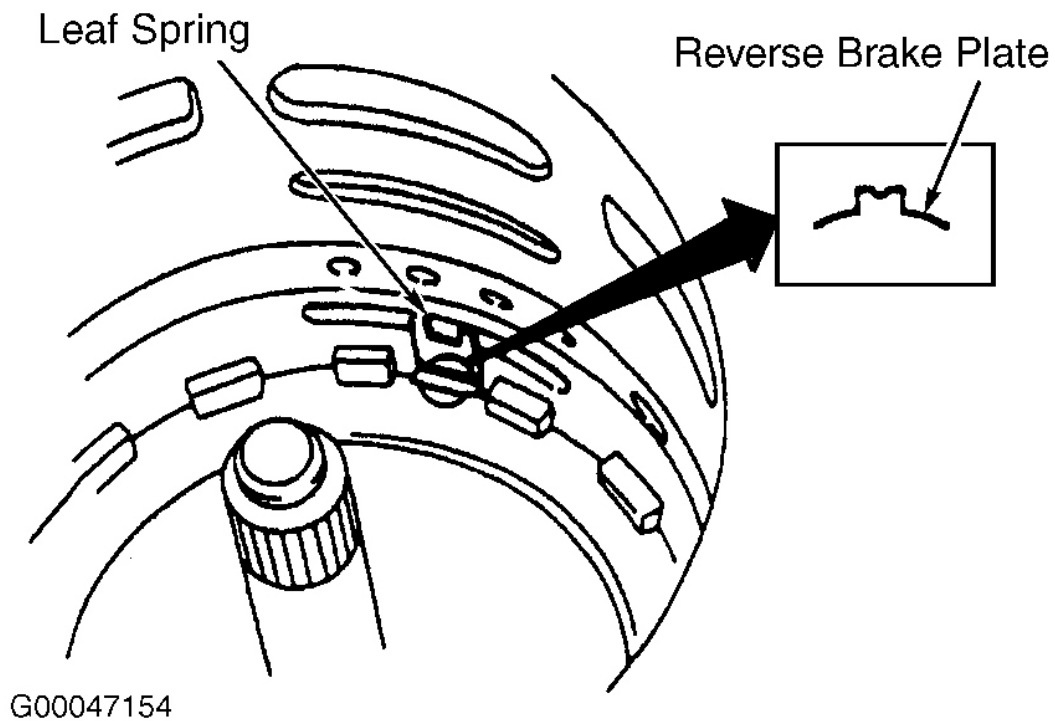

Fig. 50: Installing Planetary Gear Assembly
3. Remove low and reverse brake reaction plate from planetary gear assembly. See **Fig. 37** . Align notched lugs of low and reverse brake plates and low and reverse brake backing plate. Install planetary gear assembly into transmission case with notched lugs align with cutout in transmission case. See **Fig. 50** . Measure low and reverse brake clutch pack clearance. See **Fig. 12** . Ensure low and reverse brake clearance is within specification. See **LOW & REVERSE BRAKE CLEARANCE SPECIFICATIONS** table. Install low and reverse brake reaction plate and snap ring.